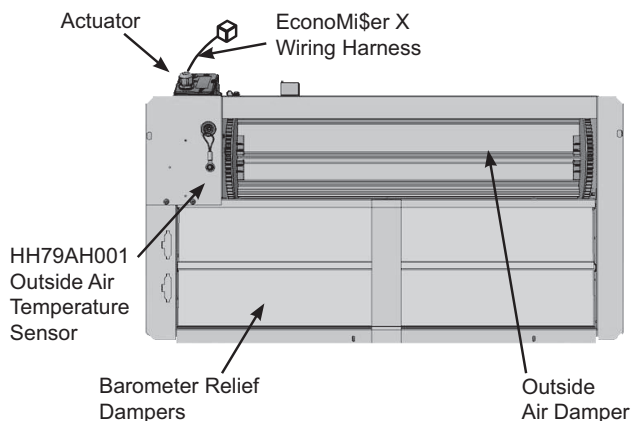
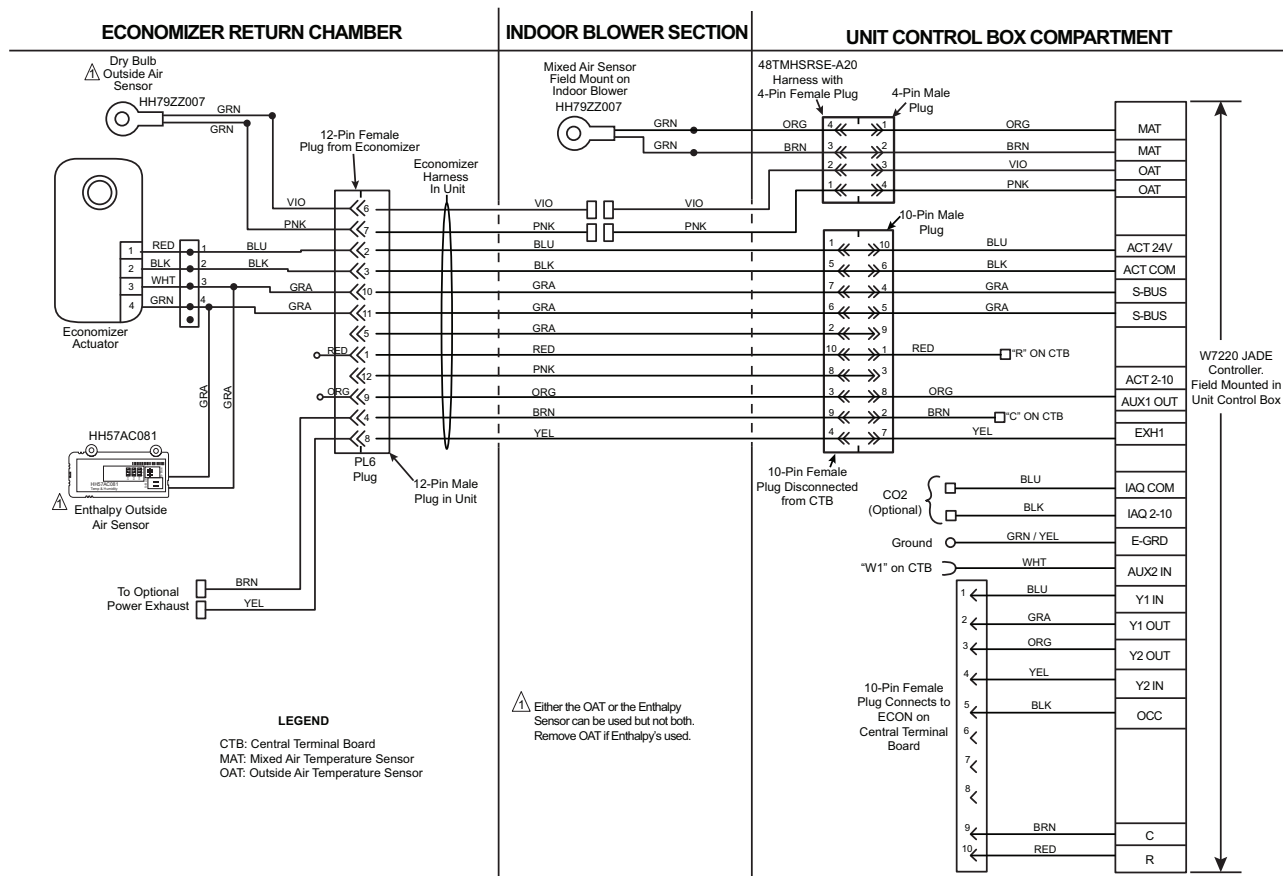

Fig. 1 — EconoMi\$er X Component Locations (CRECOMZR076A00 Shown)
Fig. 25 — Typical EconoMiSer X Wiring Diagram for 1 or 2 Speed Units (Not for 48/50LC 07-12 Units)
See Fig. 1 for component locations.
7. If the EconoMi\$er X system will be operating with an enthalpy outside air sensor, remove the factory installed HH79ZZ007 dry bulb sensor from the front face of the economizer (see Fig. 1), and install the accessory enthalpy sensor HH57AC081 in the same location. Connect the (2) wire gray harness with plug from the EconoMi\$er X assembly to the enthalpy sensor. See Fig. 25 for wiring diagram. Refer to "Installing Optional HH57AC081 Outside Air Enthalpy Sensor" section for more details on enthalpy settings.
When using the HH57AC081 (Honeywell C7400S) enthalpy sensor (see Fig. 32) for outside air changeover, the existing HH79ZZ007 dry bulb sensor must be removed. The enthalpy sensor will be mounted in the same location as the dry bulb sensor (see Fig. 1). When the enthalpy sensor's OA temperature, enthalpy and dew point are below the respective setpoints, the outside air can be used for free-cooling. When any of these is above the setpoint, free-cooling will not be available. Figure 31 shows the enthalpy boundaries in the W7220 controller. There are (5) enthalpy boundaries (setpoints ES1 thru ES5), which are defined by dry bulb temperature, enthalpy, and dew point. ES3 is the default setting. Table 7 shows the High Limit Curves for each setting.
The (2) gray wires with a plug from the EconoMiSer X harness in the return chamber plug directly into the HH57AC081 enthalpy sensor. See Fig. 25, 29 and 30 for wiring.